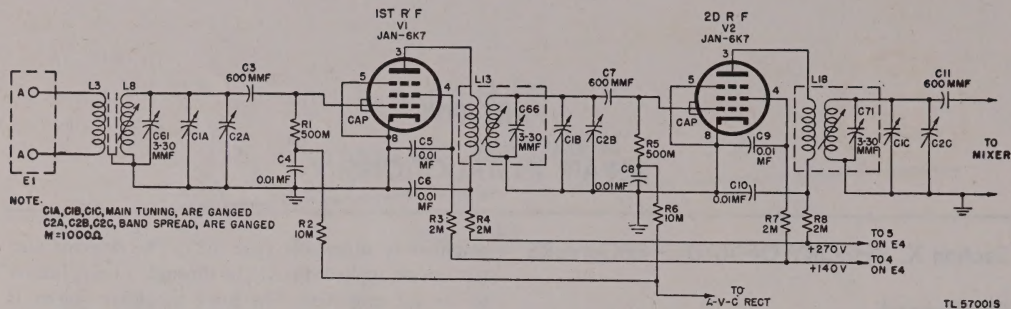
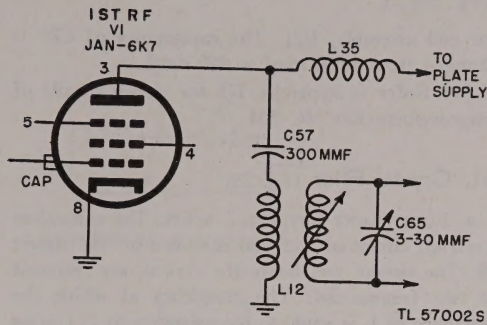

Figure 25. Radio Receiver BC-779-B, functional diagram of r-f amplifier.
Figure 26. Radio Receiver BC-794-B, functional diagram of 1st r-f stage.
59. R-F Amplifier (fig. 25)
For simplicity, only the circuits for the 2.5- to 5.0-mc band are shown and the band switching arrangement is omitted from figure 25. The band switching circuits are discussed in paragraph 68.
c. DIFFERENCES IN R-F CIRCUITS. (1) *Plate supply*. In Radio Receivers BC-779-(*) , BC-1004-(*) , and R-129/U, plate voltage is series-fed through resistance-capacitance (R-C) decoupling circuits and the r-f transformer primaries (fig. 25). In Radio Receiver BC-794-(*) plate voltage is shunt-fed by means of choke L35 and 300-mmF capacitor C57 in the first stage, and choke L36 and 300-mmF capacitor C58 in the second stage (figs. 26 and 57). This method was chosen to keep plate voltage off the tuned impedance interstage coupling circuits L49, C99, and L50, C100, of the 20-40-mc band. Decoupling filters R4, C6, and R8, C10, are not included.